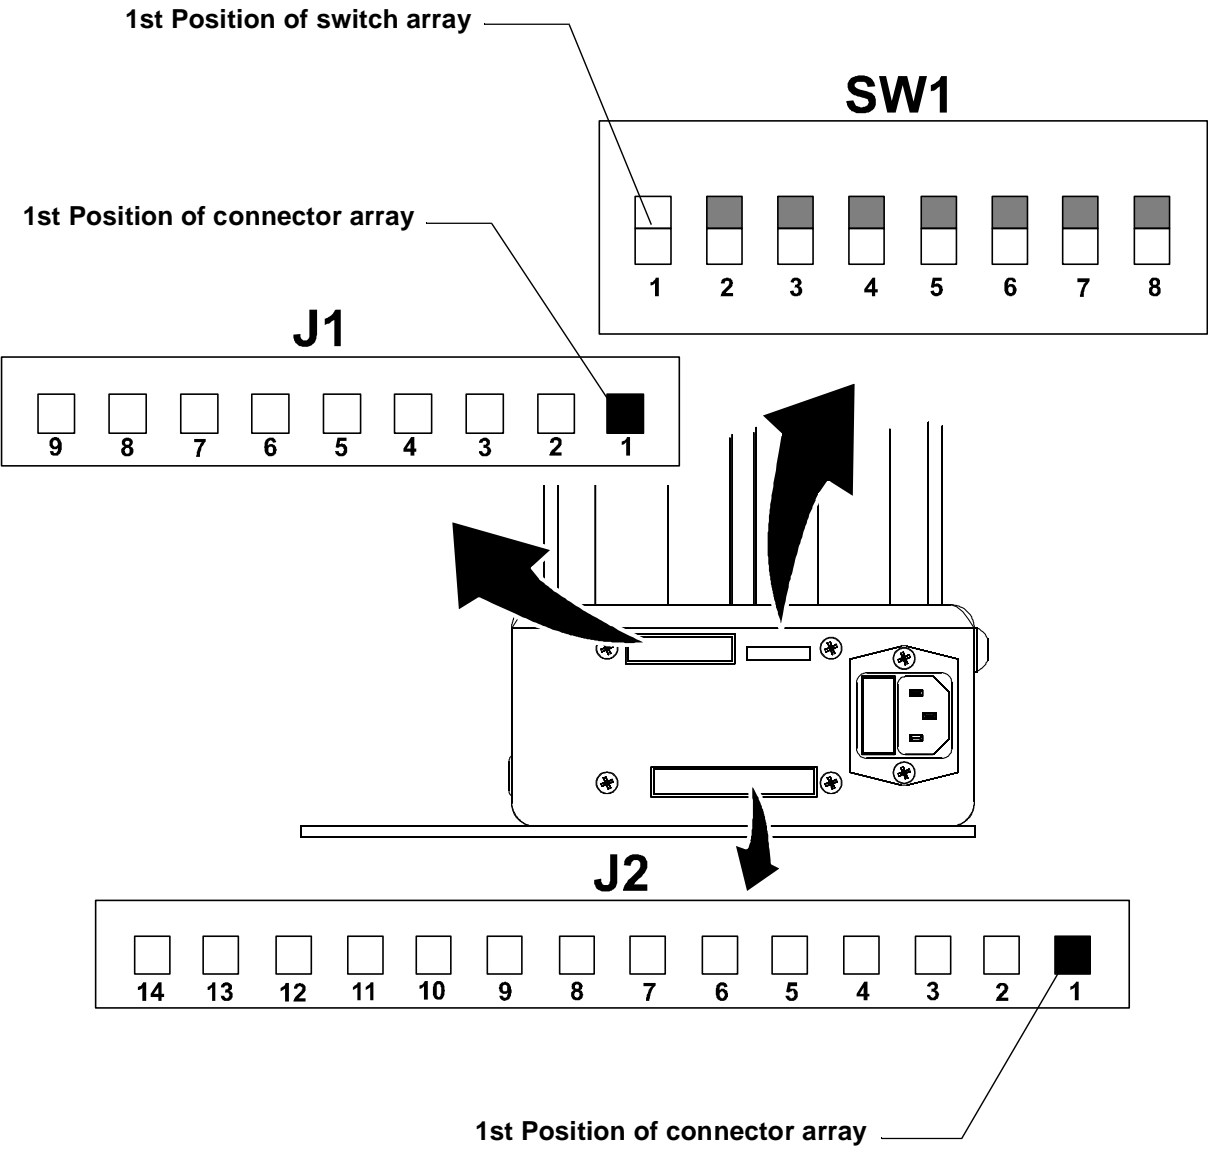
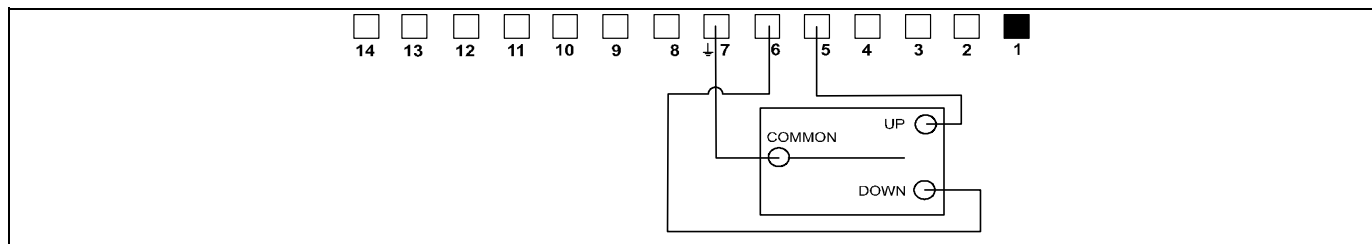
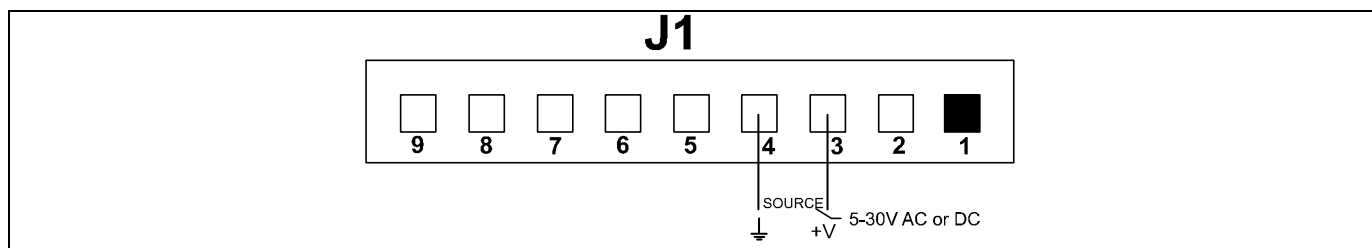
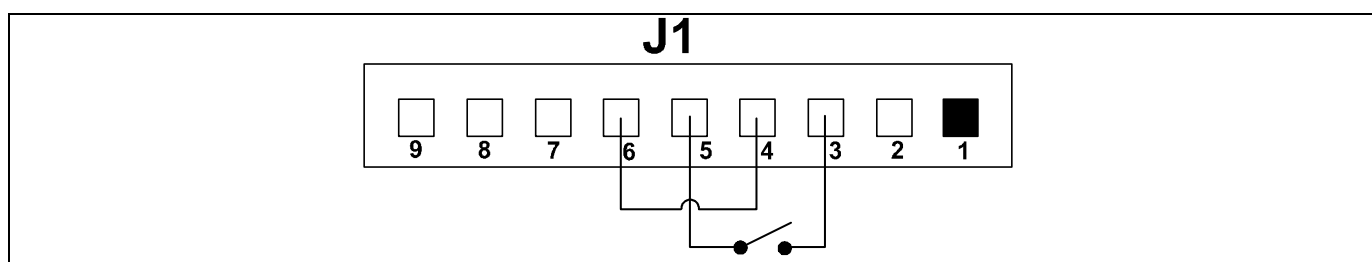

Figure 31 CM2C40 Connectors and Switches
Figure 33
Figure 34
Figure 35
Addresses are set using dipswitches located next to power inlet on mount. (See figure 31)
(See figure 31)
Pins 1 and 2 on 9 pin Connector. (See figure 31) and (See figure 33)
Unit extends and stays extended when voltage from an external source is applied across pins 3 and 4 on connector J1. When voltage is removed unit retracts. (See figure 31) and (See figure 34)
**NOTE:** Using this input will force a complete UP/DOWN cycle of the unit. No other inputs, with the exception of error inputs, are available until the cycle has completed. (See figure 31) and (See figure 35)
(See figure 31) and (See figure 36)
(See figure 31) and (See figure 37)
(See figure 31) and (See figure 38)
(See figure 31) and (See figure 39)